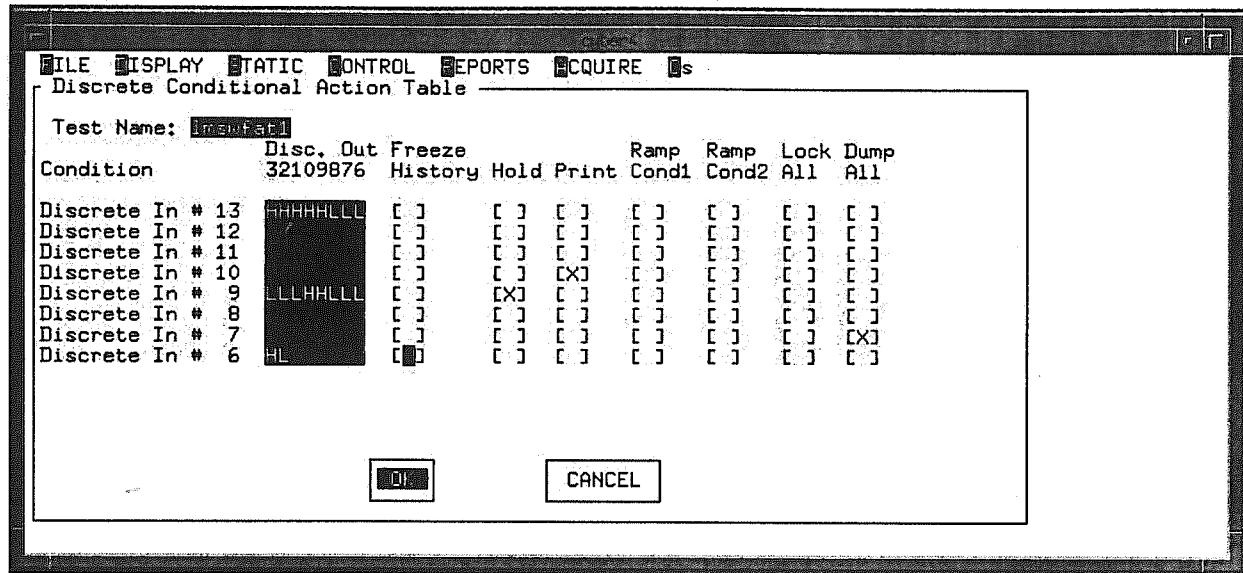

Figure 5-4. Discrete Conditional Action I Screen
- Step 1:** Select the Display menu, Discrete conditional Actions option. The Discrete Conditional Action I screen, Figure 5-4, is displayed. The screen lists the discrete inputs (6-13) at the left; the screen's columns define the same conditional actions as the system conditional action screen.